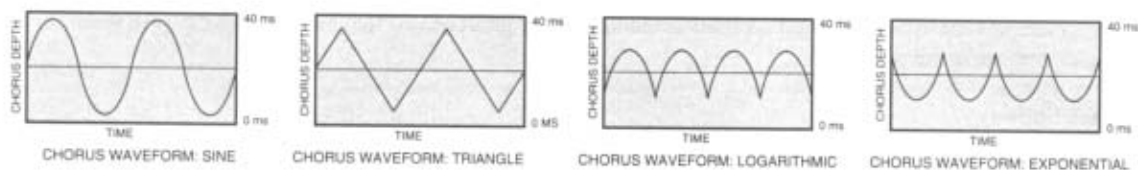

Fig. 4-7 LFO Waveforms
Delay LFO Type.....Controls the LFO waveform pattern of the modulation. SINE produces a smooth sine wave-type modulation with even transitions in and out of the turnaround points. TRIANGLE is a linear modulation effect, and ramps the pitch of the wave up and down with no slowing at turnaround points. LOGARITHMIC and EXPONENTIAL waveforms are more dramatic in their effect on the signal, producing a subtle bouncing. This Parameter appears only in Modulated Delay Modules. See fig. 4-7.
- Chorus Waveform** Controls the LFO waveform pattern of the chorus effect. SINE produces a smooth sine wave-type chorus with even transitions in and out of the turnaround points. TRIANGLE is a linear chorus effect, and ramps the pitch of the wave up and down with no slowing at turnaround points. LOGARITHMIC and EXPONENTIAL waveforms are more dramatic in their effect on the signal, producing a subtle bouncing. See fig. 4-7.